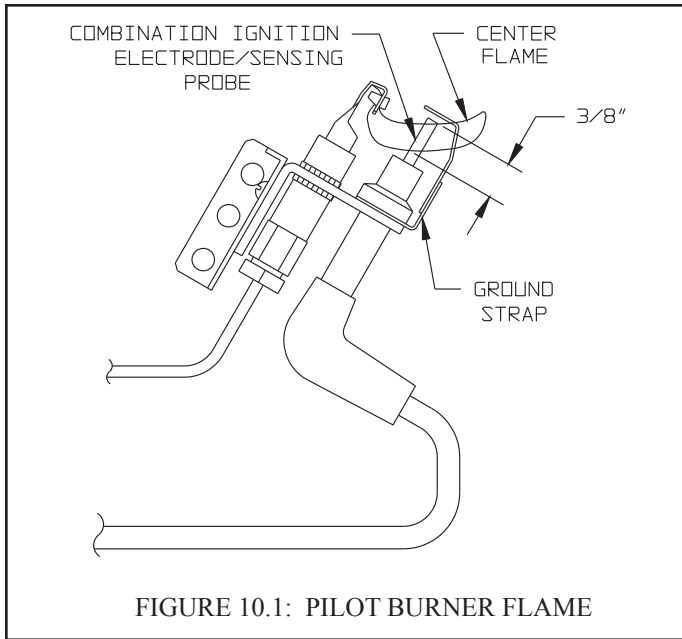

FIGURE 10.1: PILOT BURNER FLAME
- 9) Inspect the pilot burner flame. The pilot burner produces three flames. The center one should be a steady medium blue flame covering around 3/8" to 1/2" of spark electrode/flame rod. (Figure 10.1)